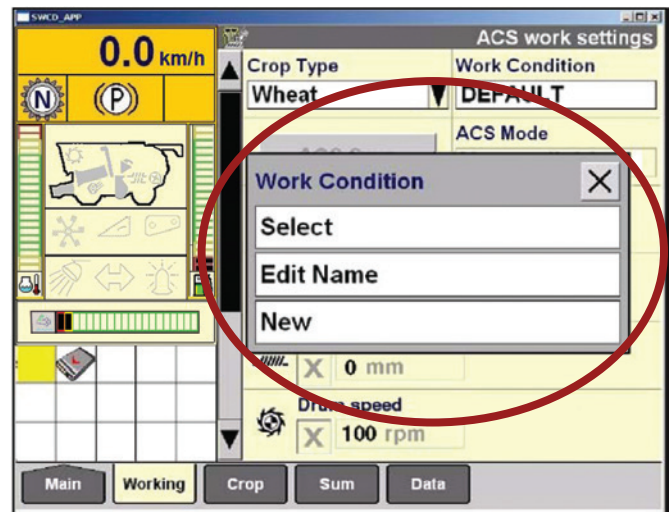

Figure 16.2
- Go to the “Crop Type” window and select the desired crop which allows the operator to select an existing Work Condition, edit the name of an existing condition, or create a new Work Condition (see figure 16.2)